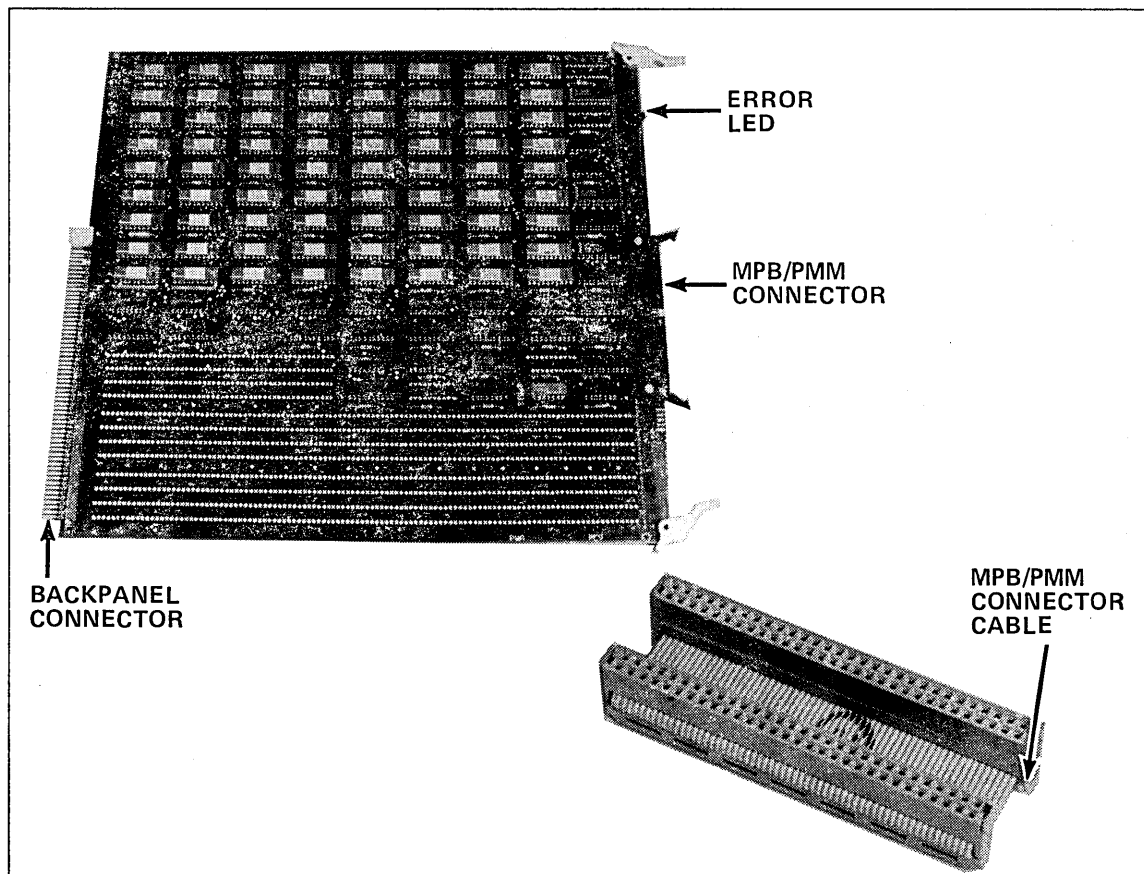

Figure 1-22. PMM Board and MPB/PMM Connector Cable
1. Unpack the PMM board and the MPB/PMM cable (shown in figure 1-22), the equipment identification tag, and the FCO label.